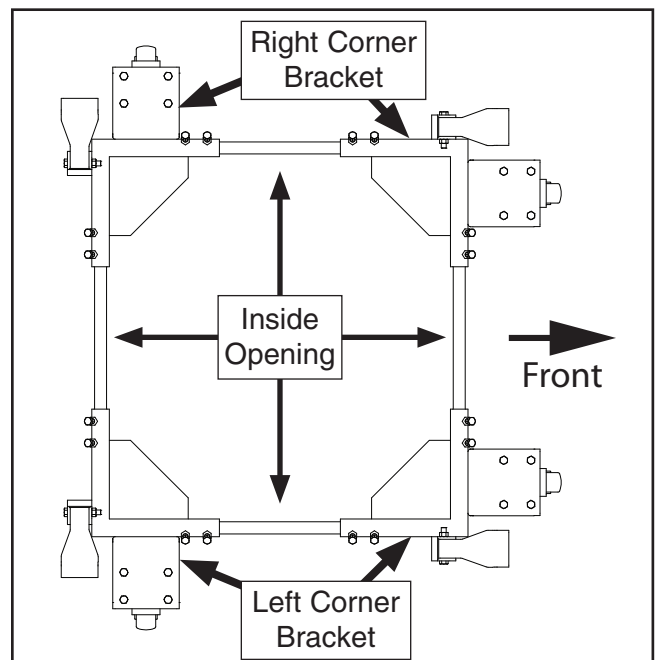

Figure 7. Example of assembled mobile base with inside opening slightly larger than machine base to ensure easy fit.
6. Slide corner brackets over ends of side rails (see **Figure 7**). Position corner brackets so inside opening is $\frac{1}{4}$ "– $\frac{1}{2}$ " larger than both width and length of machine base footprint.